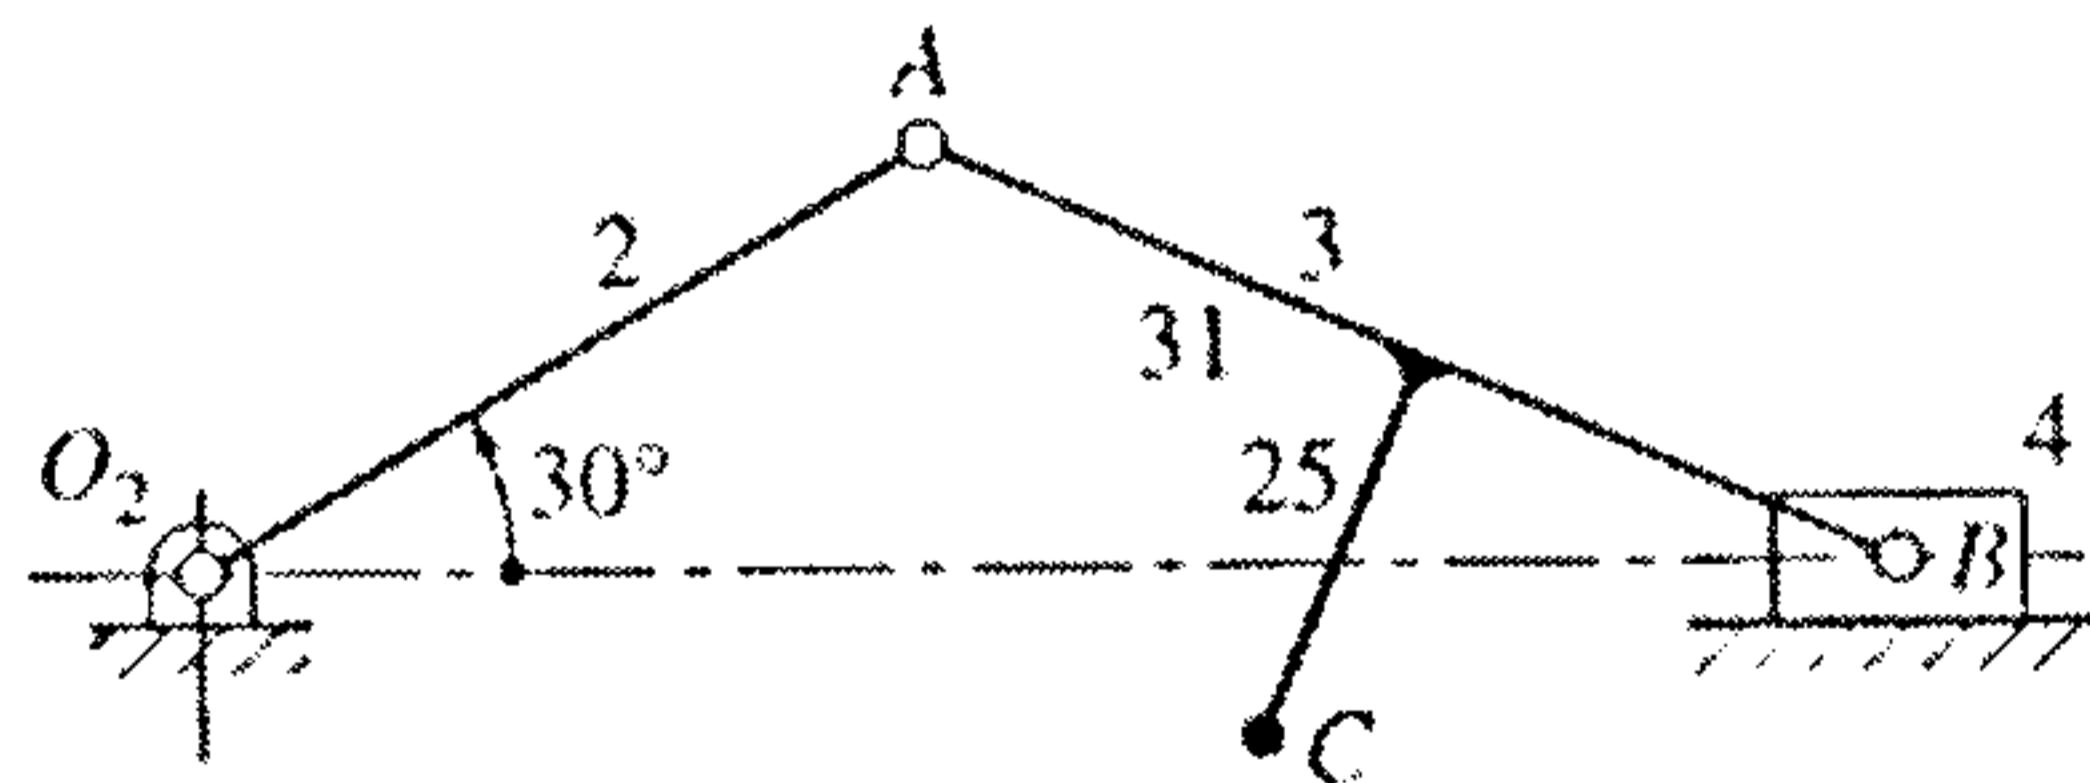

Figure 1
- b) Find the inflection circle for the motion of the coupler of the slider crank linkage as shown in the Figure 1. Given $AO_2 = 50\text{mm}$, $AB = 537\text{mm}$ 8 M